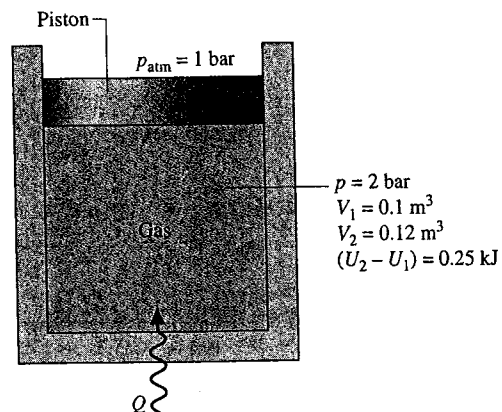

Fig. P2.56
2.56 As shown in Fig. P2.56, a gas contained within a piston-cylinder assembly, initially at a volume of 0.1 m3, undergoes a constant-pressure expansion at 2 bar to a final volume of 0.12 m3, while being slowly heated through the base. The change in internal energy of the gas is 0.25 kJ. The piston and cylinder walls are fabricated from heat-resistant material, and the piston moves smoothly in the cylinder. The local atmospheric pressure is 1 bar.